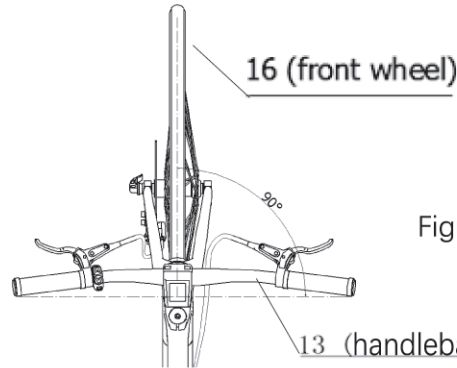

Figure 52-1.
a. Clamp the front wheels with your legs or align them with Part 3 (top tube) and adjust the angle between Part 3 and Part 16 until they are perpendicular, as shown in Figure 52-1.